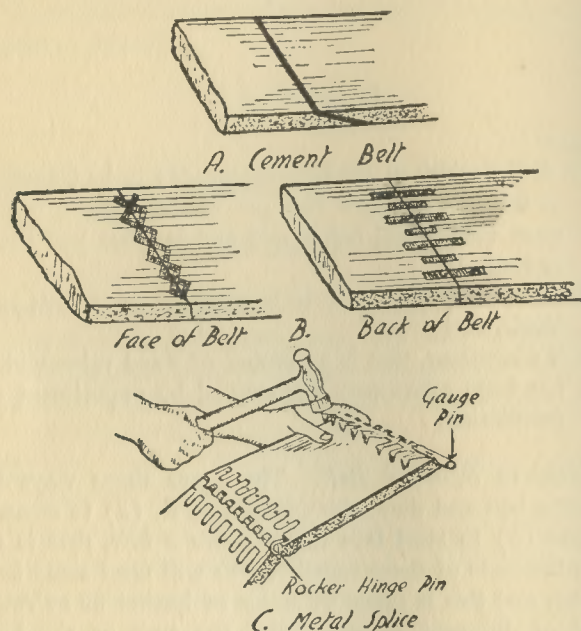

FIG. 85. HOW TO SPLICE A BELT
How to Splice a Belt. There are three ways to splice a belt and these are (1) to lace it, (2) to cement it and (3) to steel lace it. To *lace a belt*, that is to join the ends of them together you will need some *belt lacing*, and this is made of strips of leather or of rawhide of different widths. Butt the ends of the belt together, see *Fig. 85*, and then punch two rows of holes in each end as shown at *B*. This done begin at the middle of the ends of the belt and lace them over to one edge, then to the other edge, and back to the center again. Lace it so that the lacing is parallel on the back of the belt, and crosses over the face of it, as at *B*.